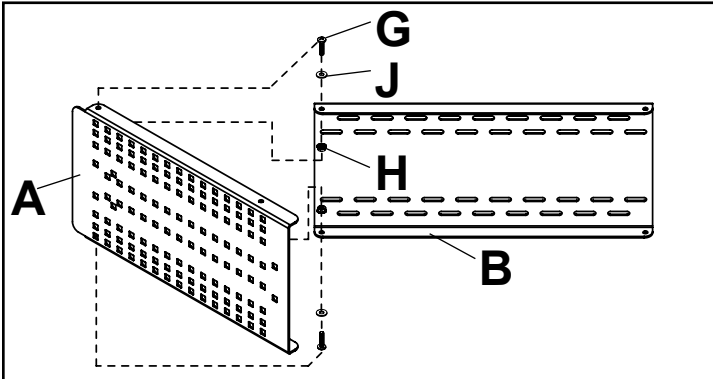
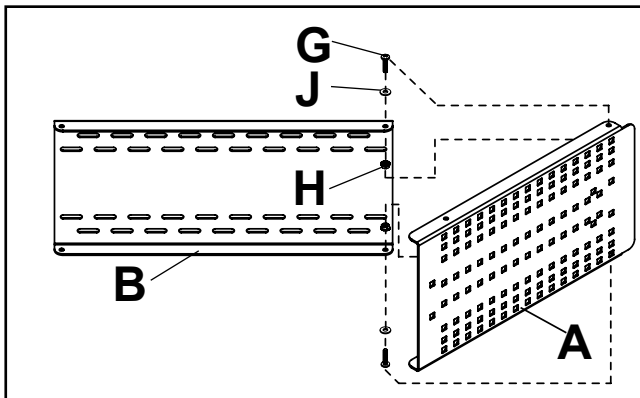

fig. 2.1
fig. 2.3
- 2** Attach interface plate (A) to wall plate (B) using two sets of 1/4-20 x 1" round phillips head screws (G), 1/4" flat washers (J) and 1/4-20 flanged serrated locknuts (H) as shown in fig 2.1 or 2.2 for interior corners or fig 2.3 or 2.4 for exterior corners. Repeat for opposite interface plate.